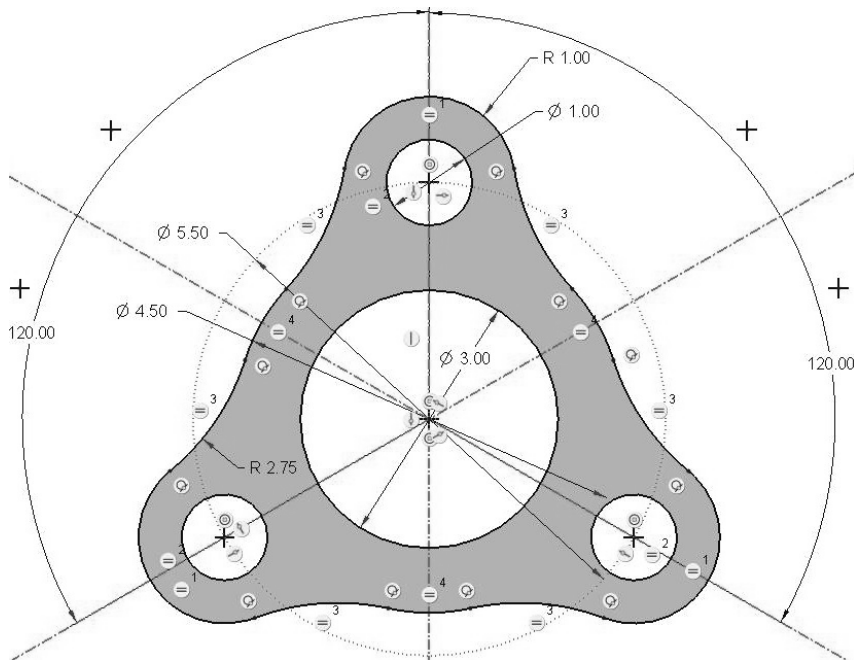

Figure 3-79 Problem 10—Cork Gasket
3.10 Draw the "cork_gasket" (Figure 3-79). **Design Intent**—The three holes need to be on a 5.50-inch bolt circle spaced 120° apart. The boundary arcs 1.00, 2.25 (4.50/2), and 2.75 are tangent to each other. (Note (=3) on numerous arcs equal 2.75 inches or half of the 5.50 bolt circle.) (>File>Options>Sketcher, change to 2 decimal places before sketching.)